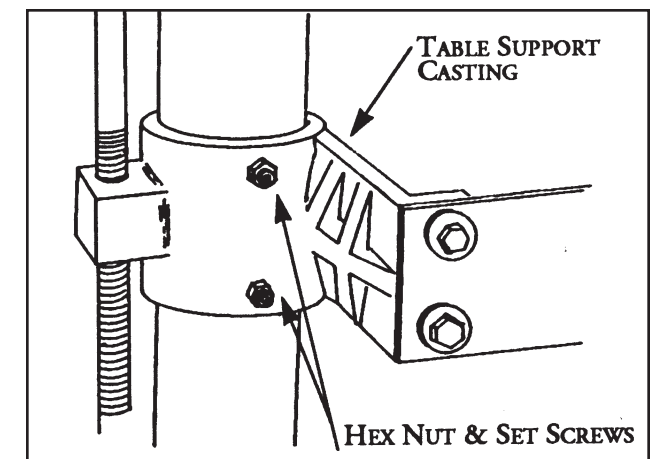

Fig. 3 Table support casting and set screws.
2. Loosen the hex nuts and set screws on the table support castings (Fig. 3) and on the motor support casting (Fig. 5 - #7). The set screws on the table support castings have been tightened at the factory to eliminate free-play between the castings and the column tube during shipment. There are two table support castings on the SuperBrush, one each for the right and left column tubes, and one motor support casting, all with set screws.
Before operating height adjustment, be sure both set screws located in both table support castings (Fig. 3) are loose to allow table support to slide on both column tubes. (These set screws are tightened for shipping.)